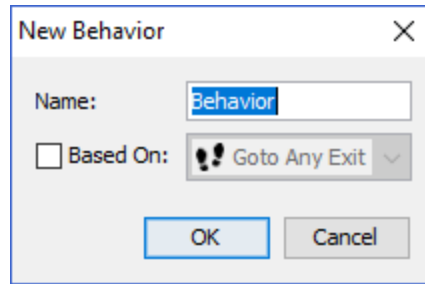

Figure 93. New Behavior dialog
1. Right click the **Behaviors** node from the Navigation View, and from the right-click menu, click **Add a Behavior**, which will open the New Behavior dialog shown in Figure 93.